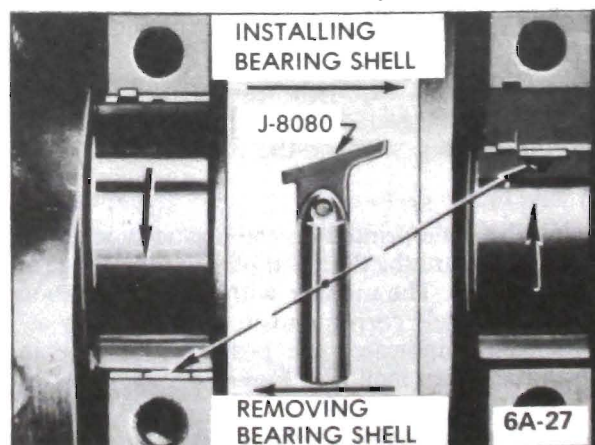

Figure 6A-27 - Removal and Installation of Crankshaft Bearing Upper Shell
7. Remove upper bearing shell by inserting Bearing Shell Remover and Installer J-8080 in oil hole in crankshaft, then slowly turning crankshaft so that the tool rotates the shell out of place by pushing against the end without the tang. See Figure 6A-27.